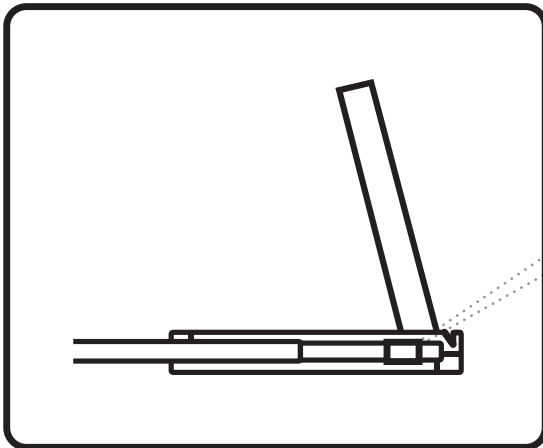

Figure 9.
- A black arrow release button is located on the outside of each slide. (shown in **Figure 9**).